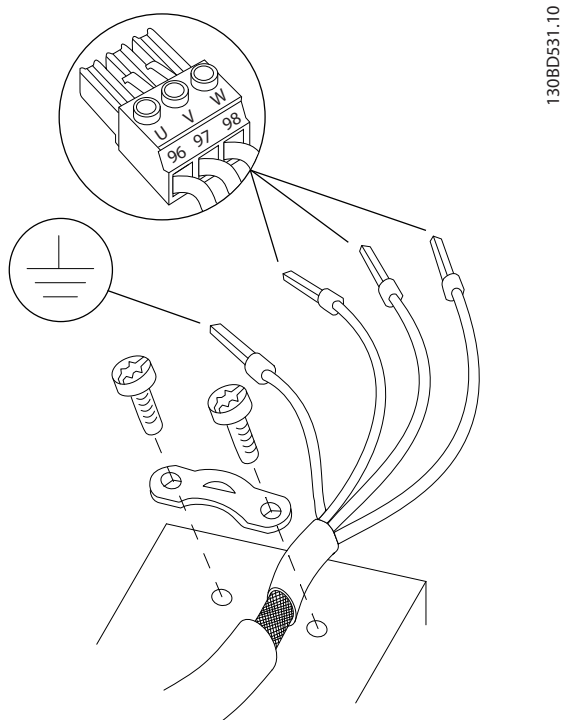

Figure 4.3 Motor Connection
3. Connect the ground wire to the nearest grounding terminal in accordance with the grounding instructions provided in *chapter 4.3 Grounding*, see *Figure 4.3*.
4. Connect the 3-phase motor wiring to terminals 96 (U), 97 (V), and 98 (W), see *Figure 4.3*.